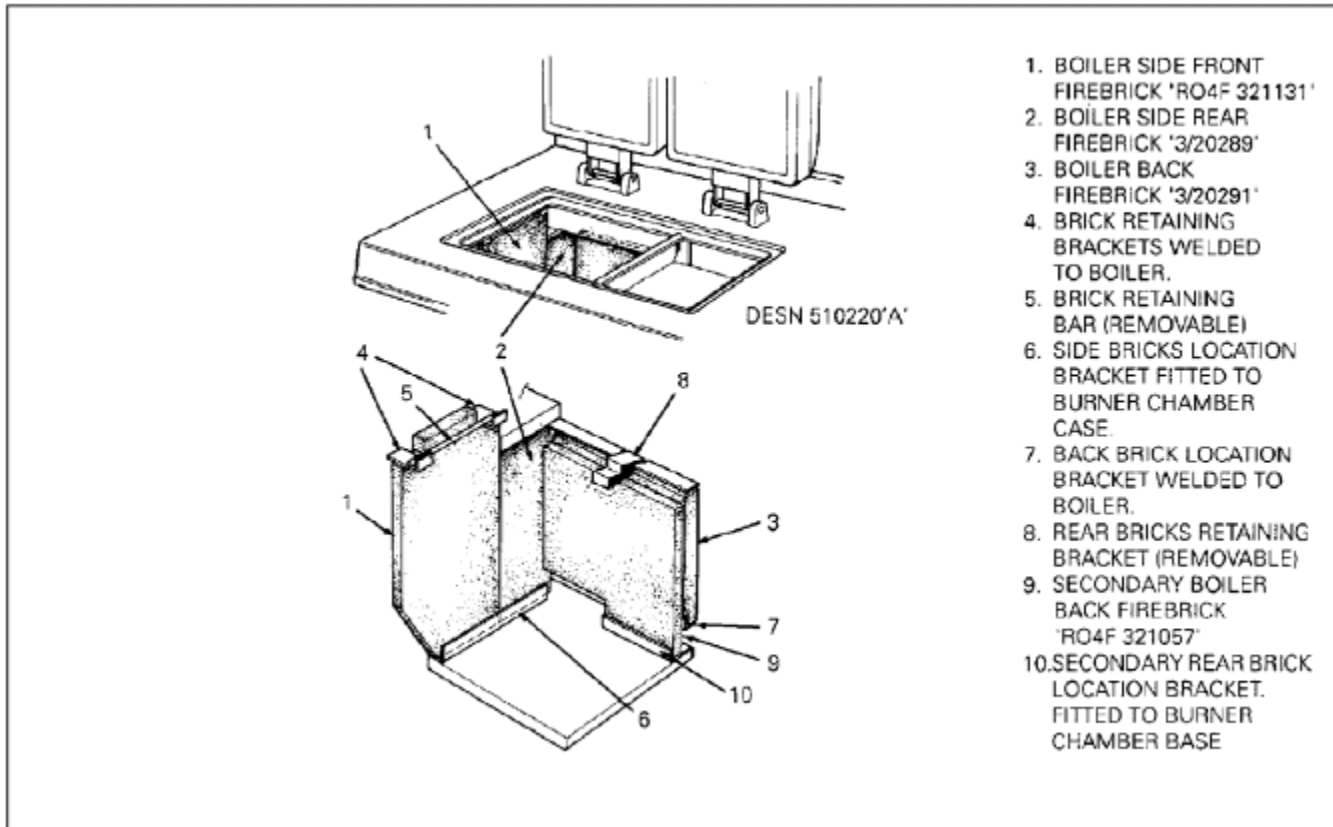

Fig 4. Fitting Firebricks for Summer Use DESN 510221
**ENSURE THAT THE REAR BRICK RETAINING BRACKET (FIG 4) IS PROPERLY LOCATED AND THE BRICKS CANNOT FALL FORWARD (IF THE BRACKET SHOWS SIGN OF WEAR, REPLACE).**